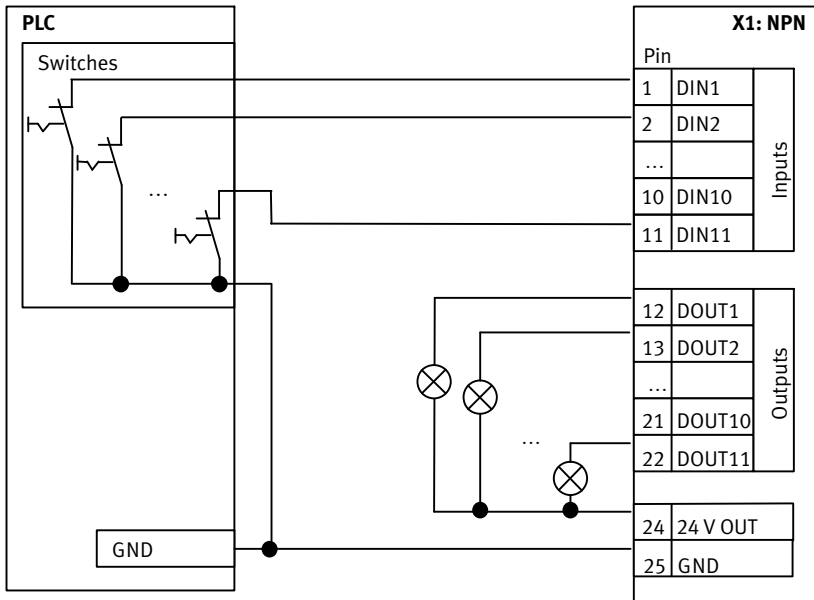

Fig. 4.3 Connection of interface variant NPN (CMMO-...DION)
- Type CMMO-...-DION = negative logic NPN (→ Fig. 4.3)